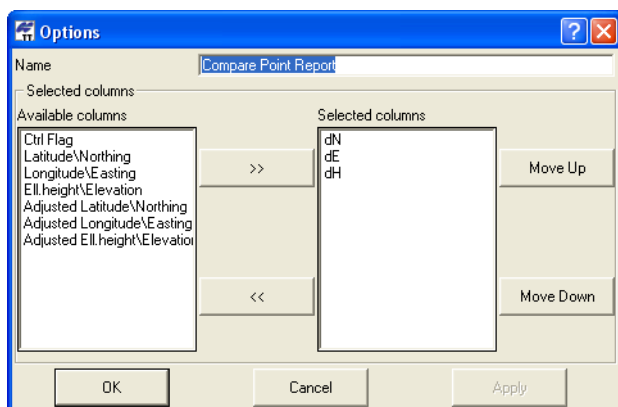

Figure 7-38. Item Options – Loop Closures
- Loop Closures – edit the name, select the loops to report, select parameters to include or exclude using the move right/move left buttons, order the display of parameters using the Move Up/Move Down buttons, and click **OK** (Figure 7-38).
- Compare Points – edit the name, select parameters to include or exclude using the move right/move left buttons, order the display of parameters using the Move Up/Move Down buttons, and click **OK** (Figure 7-38).